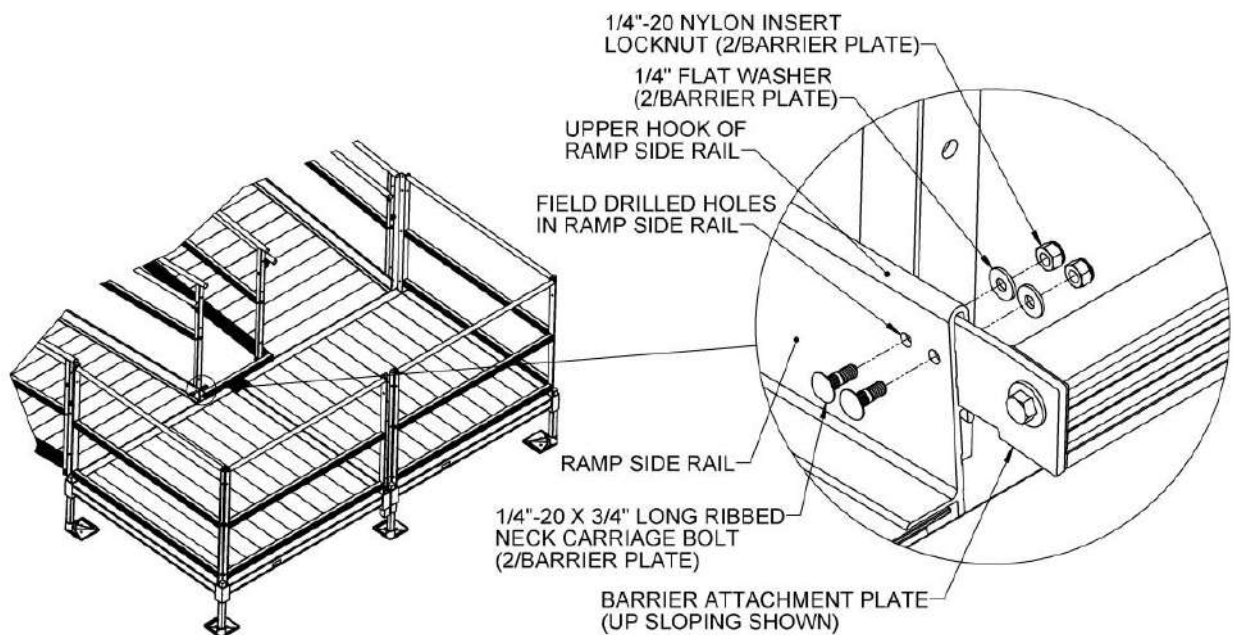

FIG. 5.22
- 5.6.7. Place the assembly into the space between the ramp side rails. Make sure the legs of the barrier attachment plates with the two smaller holes are captured under the upper hooks and in contact with the ramp side rails. Move the ramps slightly if needed. Level the barrier with respect to the platform and clamp the attachment plates to the side rails, if possible, before drilling (FIG. 5.22).
- 5.6.8. Use the two smaller holes in the barrier attachment plates to drill two 1/4" or 9/32" holes through each ramp side rail (FIG. 5.22).
- 5.6.9. Connect the barrier attachment plates to the ramp side rails using 1/4"-20 x 3/4" long ribbed neck carriage bolts, 1/4"-20 nylon insert locknuts, and 1/4" flat washers. Orient the head of the carriage bolt on the ramp side as shown (FIG. 5.22).